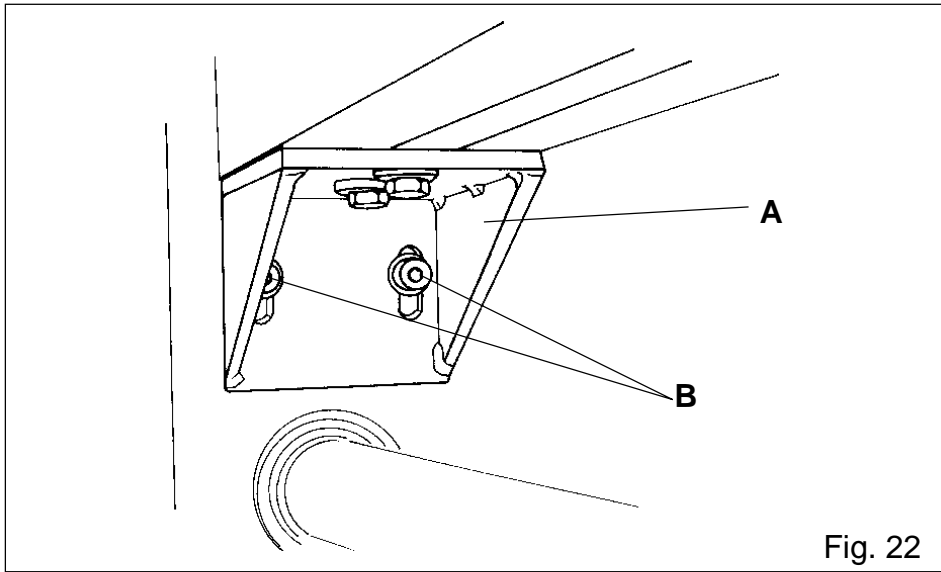

Fig. 22
- 1° - Fix the support A (fig.22) with the appropriate screws B (fig.22) on the right side of the mobile head.